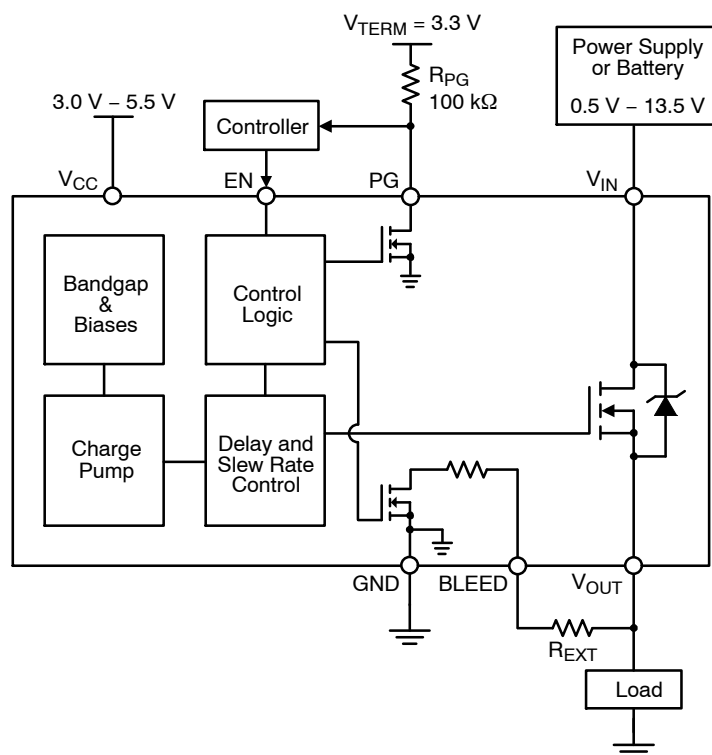
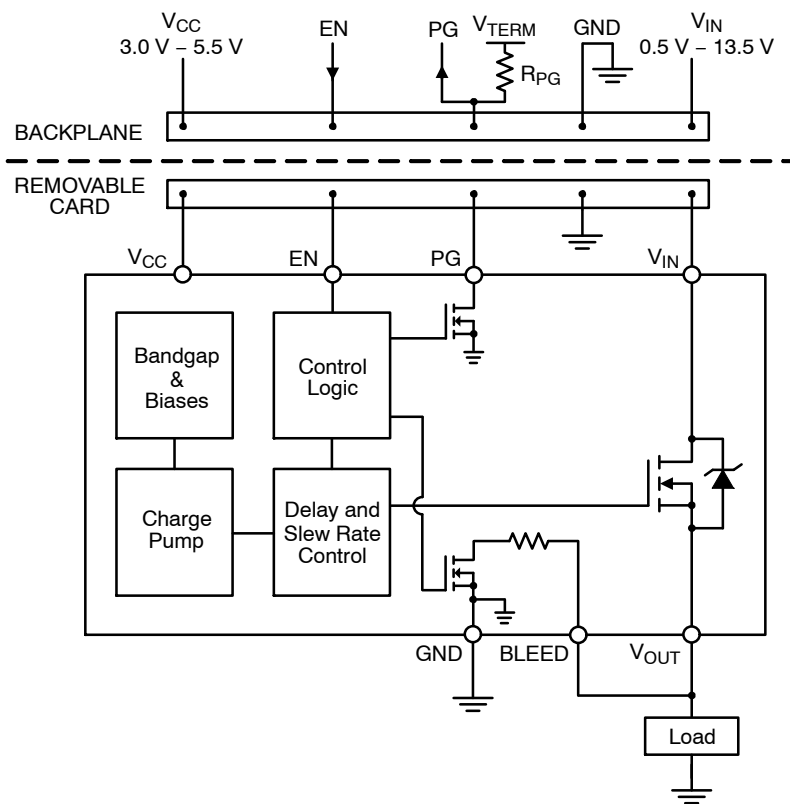

Figure 3. NCP45524 Typical Application Diagram – Load Switch
Figure 4. NCP45524 Typical Application Diagram – Hot Swap
In order to realize this functionality, the BLEED pin must be connected to V_{OUT} either directly (as shown in Figures 4 and 7) or through an external resistor, R_{EXT} (as shown in Figures 3 and 6). R_{EXT} should not exceed 1 k Ω and can be used to increase the total bleed resistance.
The NCP45524 devices have a power good output (PG) that can be used to indicate when the gate of the MOSFET is fully charged. The PG pin is an active-high, open-drain output that requires an external pull up resistor, R_{PG} , greater than or equal to 1 k Ω to an external voltage source, V_{TERM} , that is compatible with input levels of all devices connected to this pin (as shown in Figures 3 and 4).